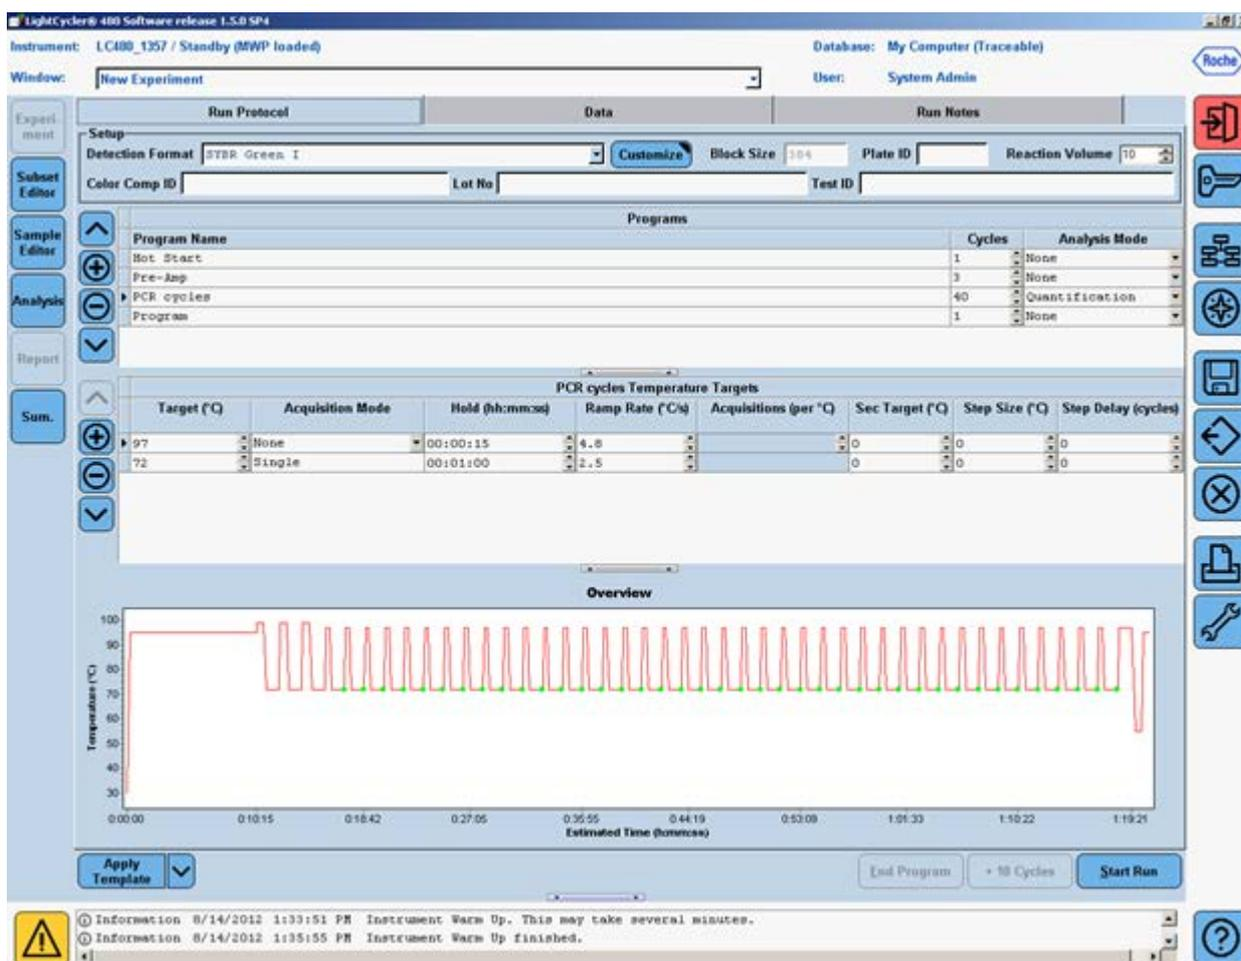

Figure 5. Setup of the third program — “PCR Cycling.”
- Click to change the “Program Name” of the third program to “PCR Cycling”. Change the number of cycles to “40” and change the “Analysis Mode” to “Quantification”. In the “Program Temperature Targets” section, click the  button to add one more temperature target line. Enter the values for the following parameters (Figure 5):
- Click to change the “Program Name” of the fourth program to “Melt Curve.” Leave “Cycles” at “1” and change “Analysis Mode” to “Melting Curves.” In the “Temperature Targets” section, click the  button once to add one more temperature target line. Enter the values for the following parameters (Figure 5):